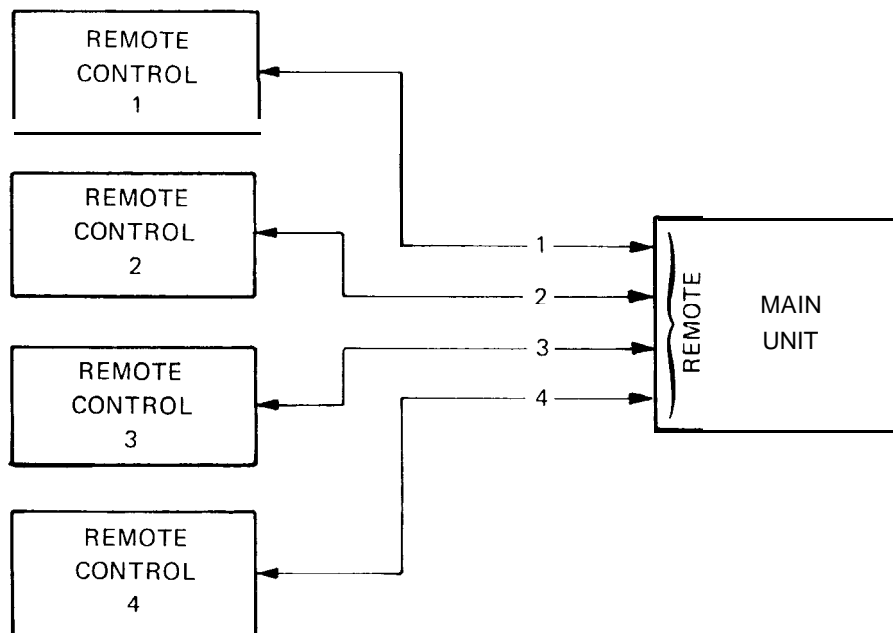

Figure 2-7. Connection of Four Remotes to One Main Unit
**2-9. CONNECTION OF MULTIPLE REMOTES.** (See figure 2-7.) One main unit may be controlled by one, two, three, or four remote control units on a priority basis. This makes it possible to control a single main unit from one to four locations (stages) with a corresponding reduction in equipment duplication.